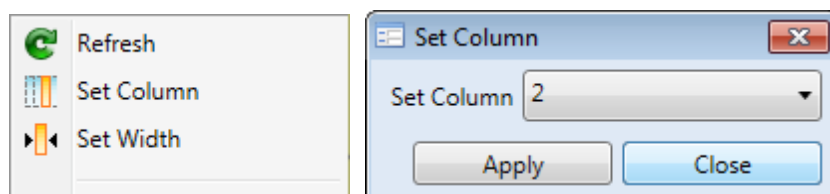

Fig. 115: Left – selection from basic functions in the context menu; Right – form for column position set-up.
The first three functions exemplify their use for all data types (**Fig. 115 Left**).
(1) The **Refresh** function is used to render the visual content. If you change the plot height, the data that are already displayed is not automatically redrawn; only the vertical axis is redrawn. This setting was chosen for economy of computational performance. For example, if you plotted a geological scheme and you subsequently want to increase the plot size, you must redraw the object by clicking on the **Refresh** command.
(2) The **Set Column** function moves data from one column to another. When you click on it, the **Figure 115 Right** help form defines the new column you want your data moved to. The program does not automatically check whether data already exists in the column you want your selected data moved to, so you must know in advance if your new intended column is already empty.